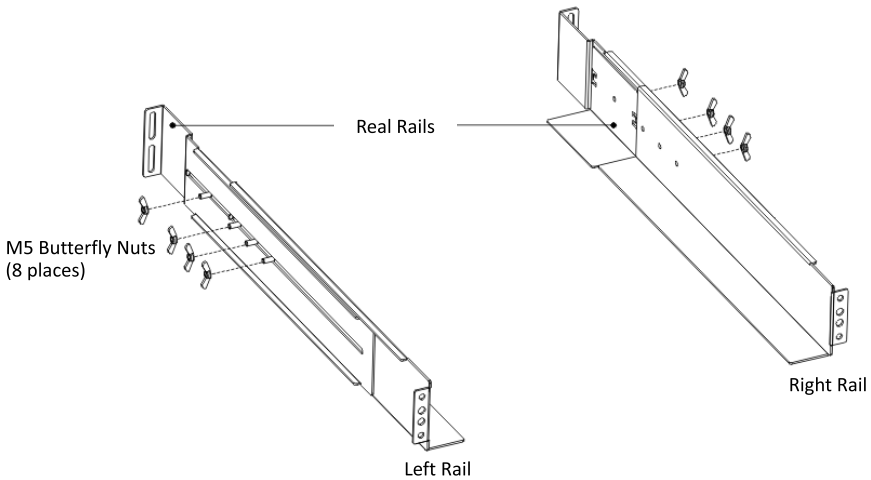

FIG. 2 Securing the Rails
1. Assemble the left and right rails to the rear rails as shown in FIG.2. Do not tighten the screws.
3. Tighten four M5 rivet nuts in the side of rail assembly (see FIG. 2).